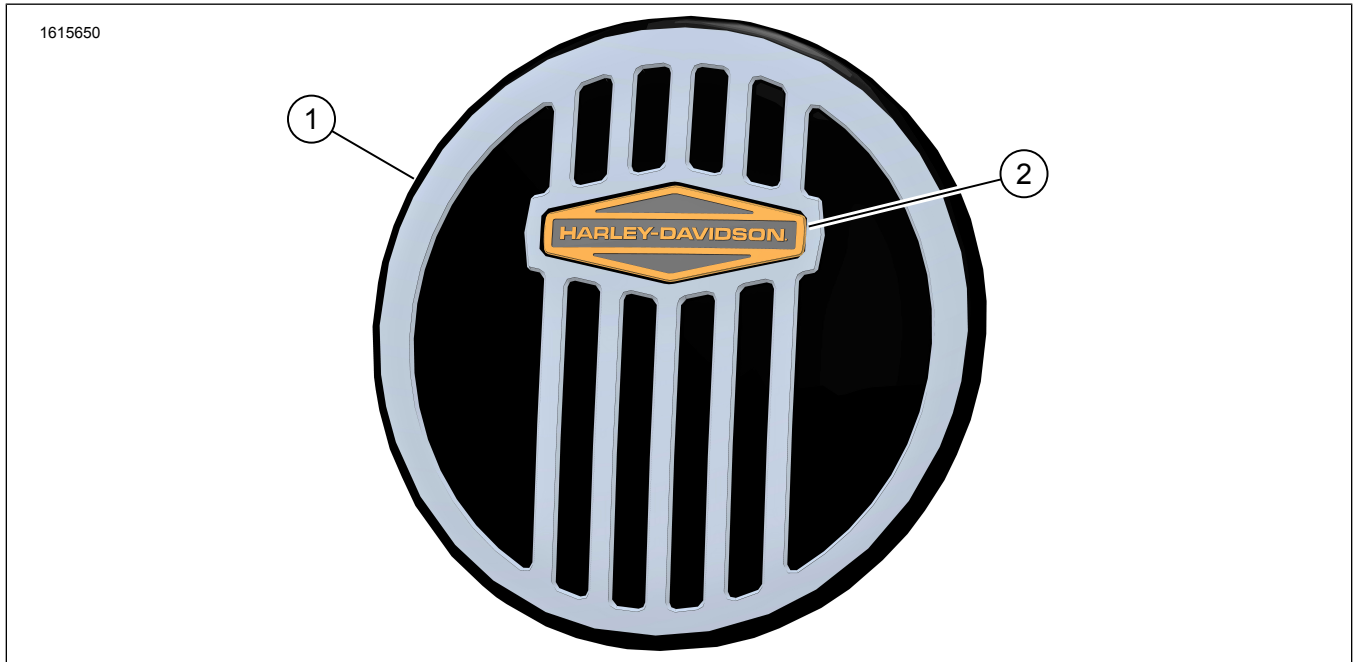

Figure 1. Kit Contents: Console Cover Kit
1. Figure 1 Bond medallion (2) to console cover (1).